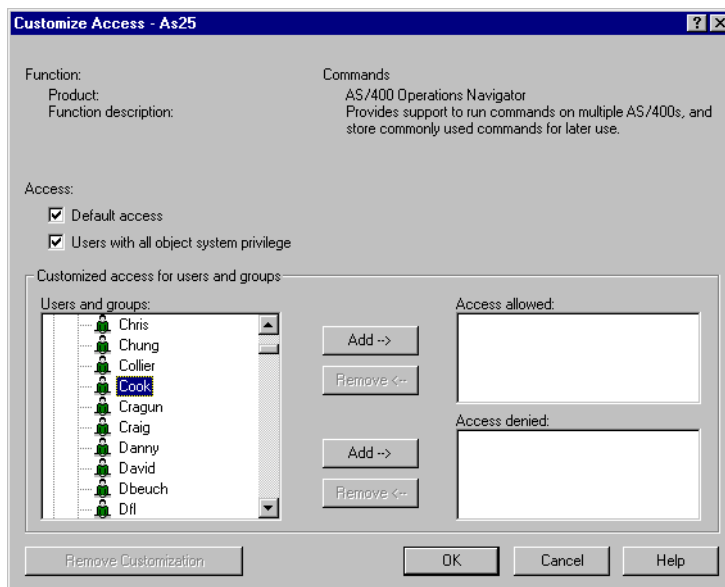

Figure 13. Customize Access dialog box
- **Customized Access:** Indicates whether users or groups are explicitly denied or allowed access to the function. To give users or groups specific access, select the function and click on the **Customize** button. From the Customize Access dialog box, shown in Figure 13, select a user in the left list and click on the **Add-->** button to allow or deny access to the selected user.